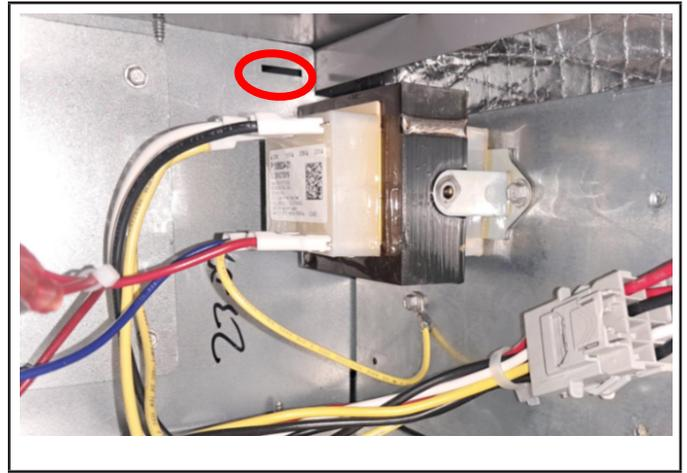
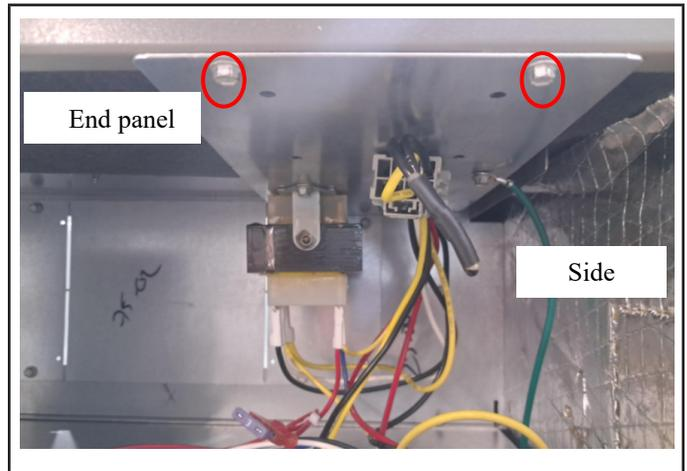

FIGURE 22. Notch for Control Panel Relocation
FIGURE 23. Control Panel Relocated to End Panel (Horizontal-Right Configuration)
- 2 - Slide the control panel into the notch on the electric heat mounting panel (FIGURE 22). Using the screws removed in Step 1, secure the control panel to the end panel, as shown in FIGURE 23.